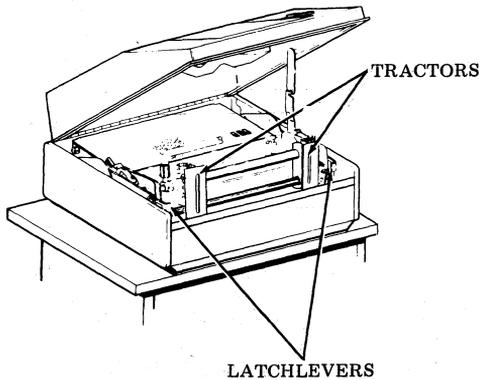

Fig. 5
- (c) Release printer to tilt position by depressing left and right latchlevers to rear (Fig. 5).